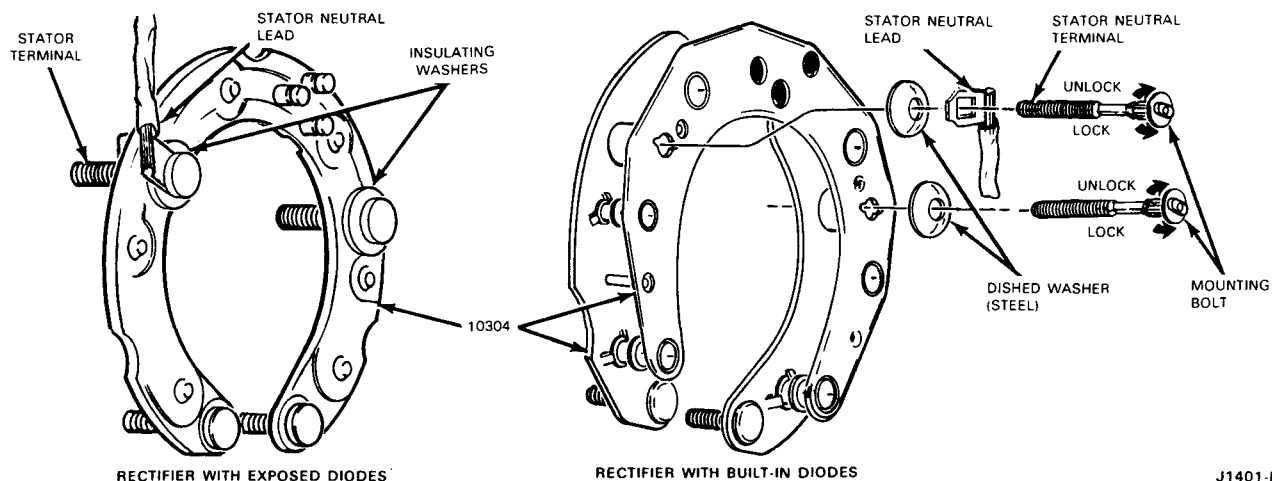
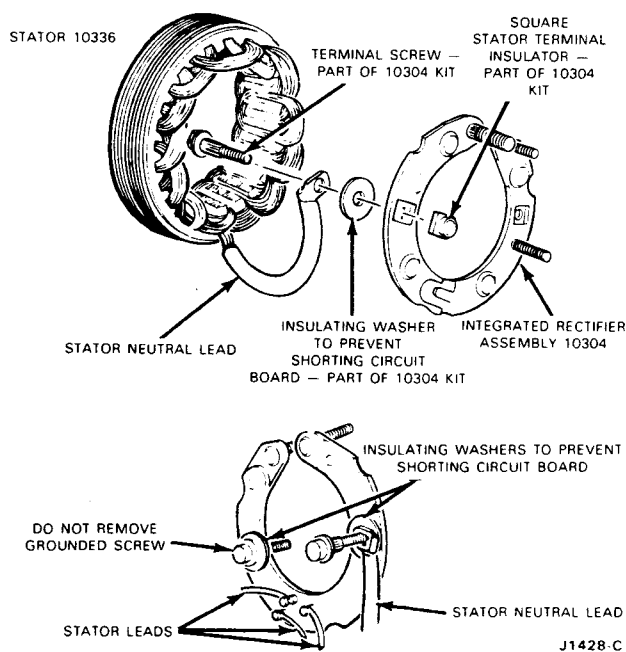

FIG. 16 Rectifier Assembly
FIG. 17 Stator Terminal Installation — Integral Rectifier Circuit Board
8. Original production alternators will have one of three types of rectifier assembly circuit boards (Fig. 16); one has the circuit board spaced away from the diode plates with the diodes exposed. Another type is a single circuit board with built-in diodes. The third
If the alternator rectifier has an exposed board, remove the screws from the rectifier by rotating the bolt heads 1/4 turn clockwise to unlock them and then remove the screws (Fig. 16). Push the stator terminal straight out on a rectifier with the diodes built into the circuit board (Fig. 16). Avoid turning the screw while removing to make certain that the straight knurl will engage the insulators when installing. Do not remove the grounded screw (Fig. 17).
10. For a rectifier with the diodes exposed, insert the special screws through the wire lug, dished washers, and circuit board (Fig. 16). Turn them 1/4 turn counterclockwise to lock them. For single circuit boards with built-in diodes, insert the screws straight through the wire lug, insulating washer and rectifier into the insulator (Fig. 16).
The dished washers are to be used only on the circuit board with exposed diodes (Fig. 16). If they are used on the single circuit board, a short circuit will occur. A flat insulating washer is to be used between the stator terminal and the board when a single circuit board is used (Fig. 17).